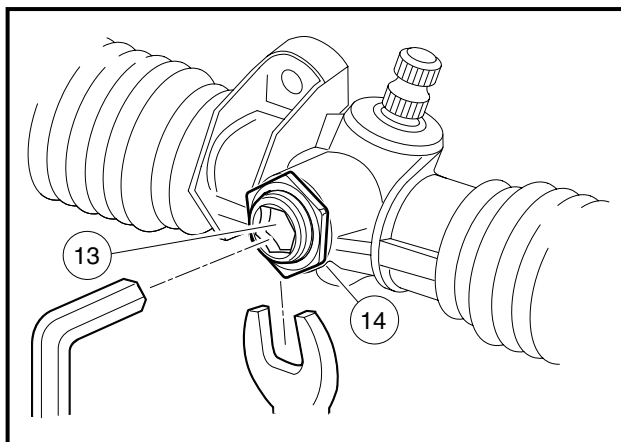

Figure 7-12 Rack and Pinion Adjustment
13. If measured resistance is not 7 to 15 in-lb (.8 to 1.7 N·m), adjust the screw (13) until correct setting is achieved. Tighten the nut (13) to 28 ft-lb (38 N·m) (**Figure 7-12, Page 7-9**).
NOTE: When tightening the nut (13) make sure the screw (14) does not change adjustment (**Figure 7-12, Page 7-9**).